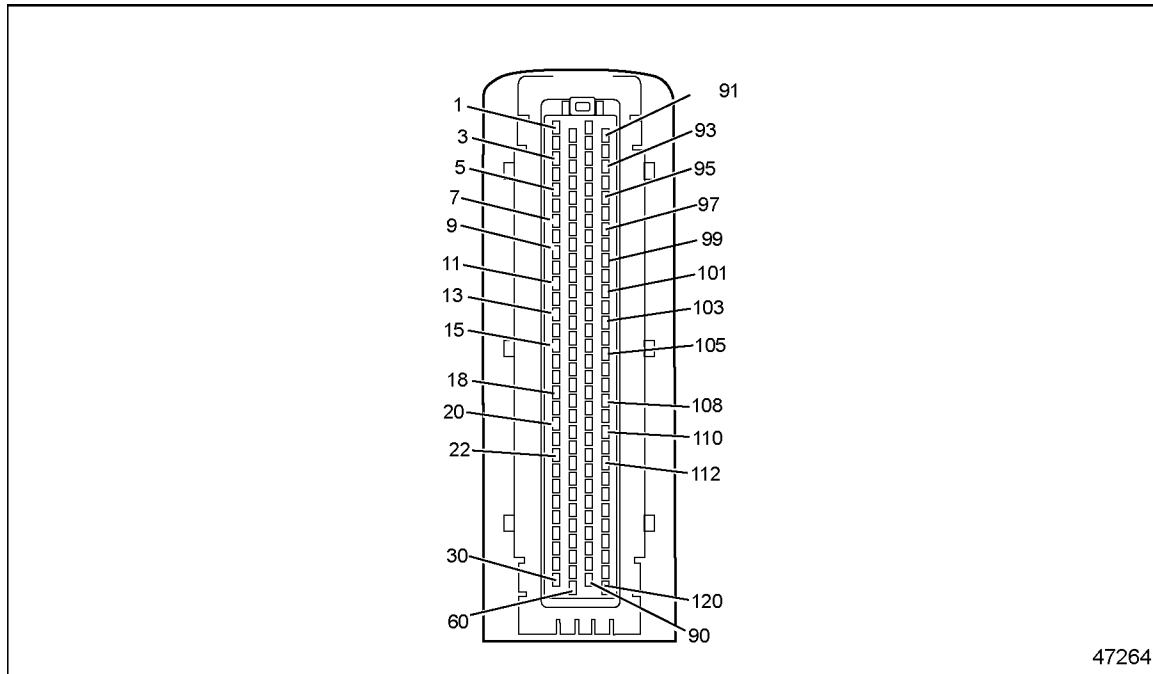

Figure 21-4 120-pin MCM Connector
- [a] If the resistance is less than 5Ω , repair the short between pins 117 and 103 of the 120-pin MCM connector. See Figure 21-4. Refer to section 21.2.1.1.